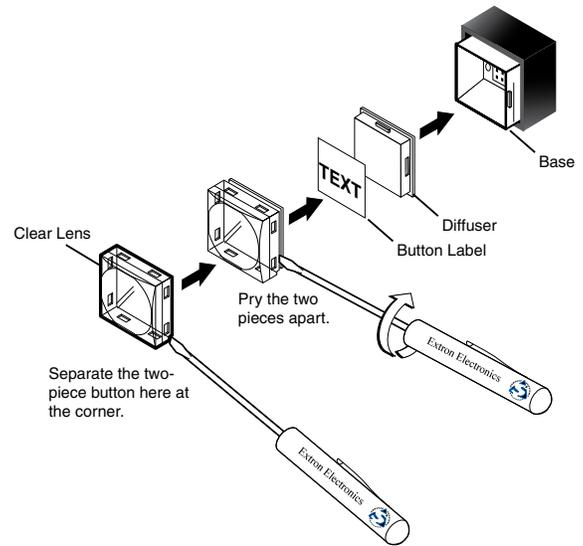

Figure 72. Illuminated Button Label Replacement
1. Remove the button from the matrix switcher; use a small, flat bladed screwdriver such as an Extron Tweeker to gently pry a button out from the front panel (see figure 72).